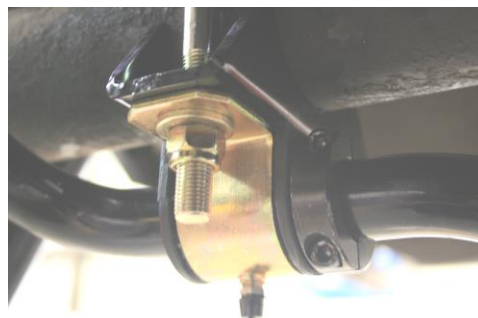

Figure 6 – Split Collar Clamp
- Separate the Split Lock Collar into two pieces and place around the sway bar to the inside of the sway bar clamps on the rear axle. Reassemble the collar using High Strength Red Loctite 262 on the bolts and torque to 15 ft-lbs. **NOTE:** Position the collars tight to the urethane bushing when installing. Figure 6 shows the clamp in place.